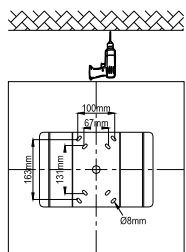

Figure8
1. Drill the alignment holes on the top ceiling, make them match to the holes on mounting bracket. (Figure 8).